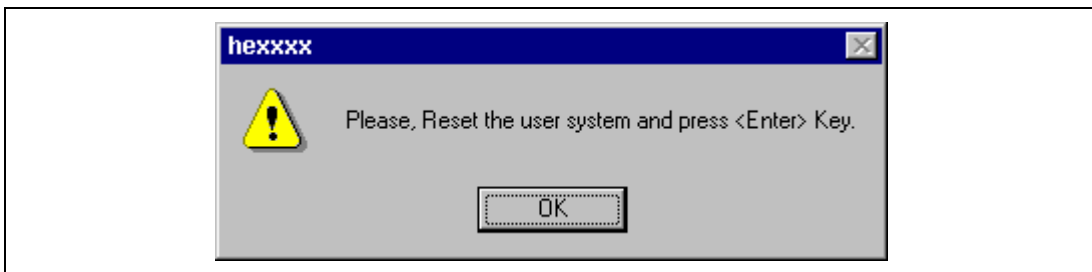

Figure 4.8 Dialog Box of the RESET Signal Input Request Message
11. The dialog box is displayed as shown in figure 4.8.